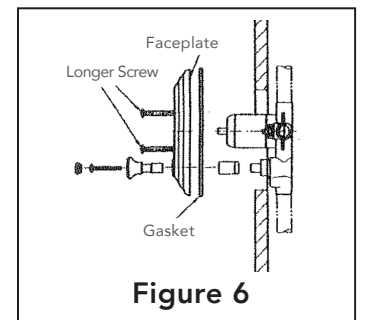

Figure 6
5. Mount gasket on back of faceplate. **Figure 6**
6. Install faceplate. **Figure 6**